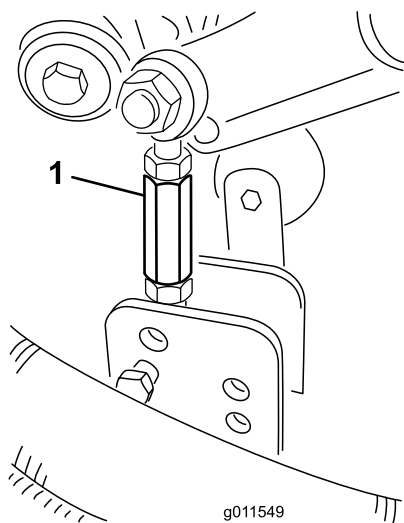
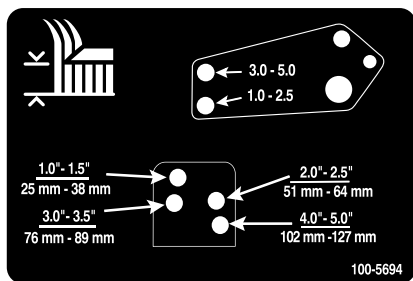

Figure 25
Figure 26
- 8. Remove the hairpin cotters and clevis pins securing the damper links to the cutting unit brackets (Figure 25). Align the damper link holes with the selected height-of-cut bracket holes in the cutting unit frame (Figure 26), insert the clevis pins, and install the hairpin cotters.